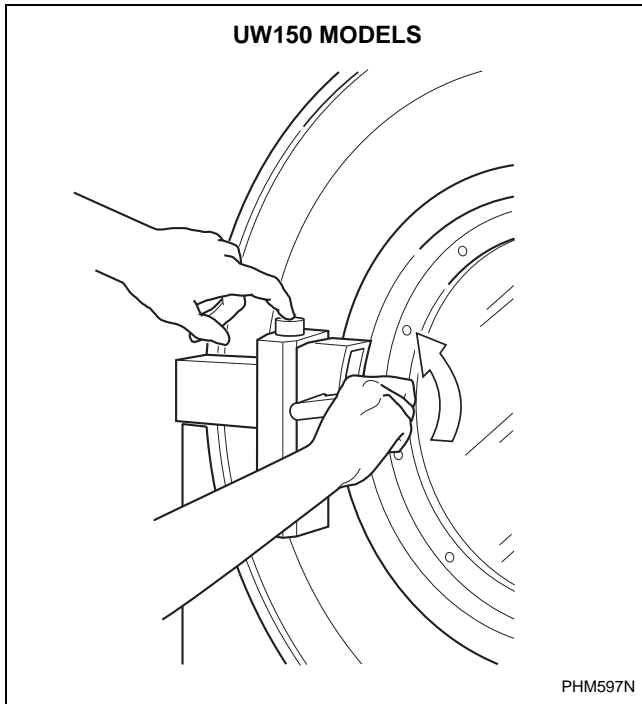

Figure 23
4. On UW150 models, use left hand to press and hold the door unlock button located on the door box. Refer to *Figure 23*.
5. On UW150 models, use right hand to turn door handle counterclockwise and swing the door right to open. Refer to *Figure 23*.